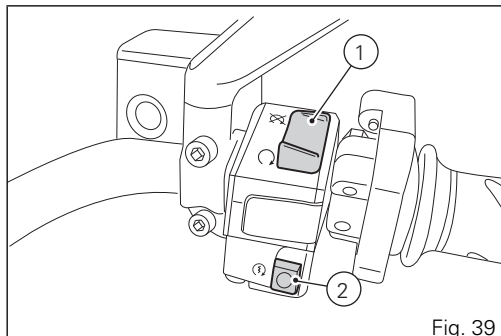

Fig. 39
- 1) if the code is recognised, the immobilizer enables engine ignition. Press the START button (2, Fig. 39) to start the engine;